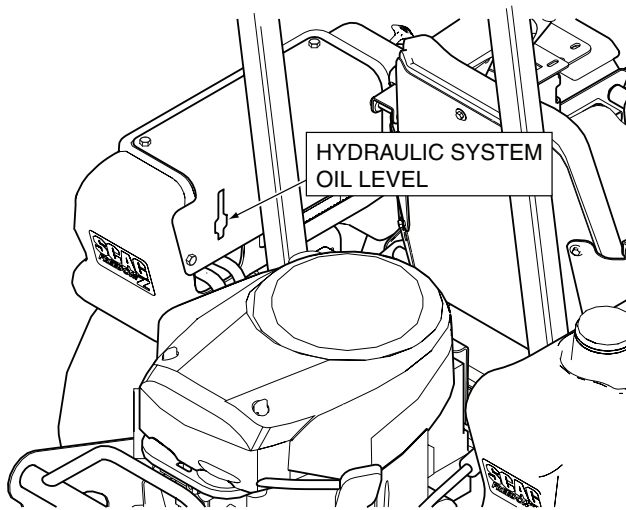

Figure 7-2. Hydraulic System Oil Level
2. When the machine is "cold" (before operation), visually check the level of the hydraulic system oil. Hydraulic system oil level should be in the middle of the indicator window located on the left side of the machine. See Figure 7-2. **DO NOT** overfill; (overfilling the oil reservoir may cause oil seepage).